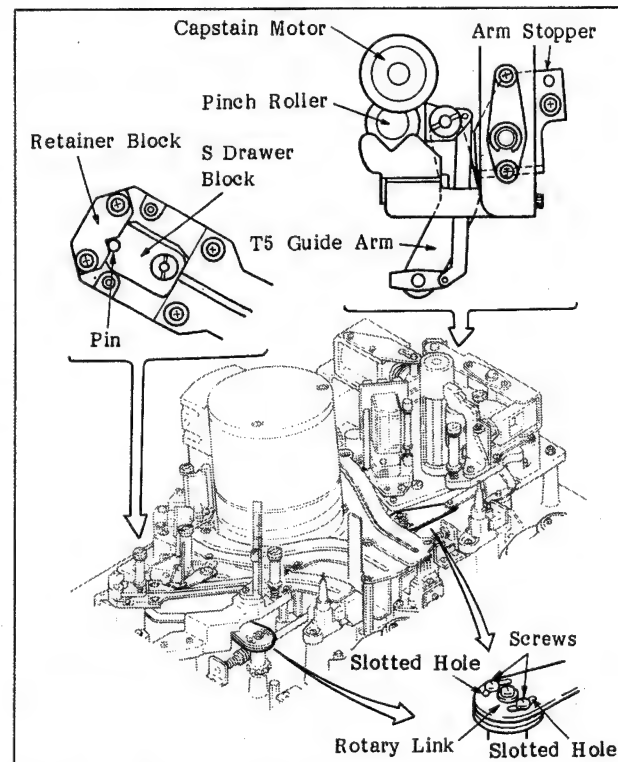

Fig. 6-58. Adjustment of the Position of the S or T Rotary Link
- e. Loosen the two screws shown in Figure 6-58, and adjust the position of the S or T rotary link by rotating the threading motor manually so that the S drawer block pin touches the retainer block and the T5 guide arm touches the arm stopper at the same time.